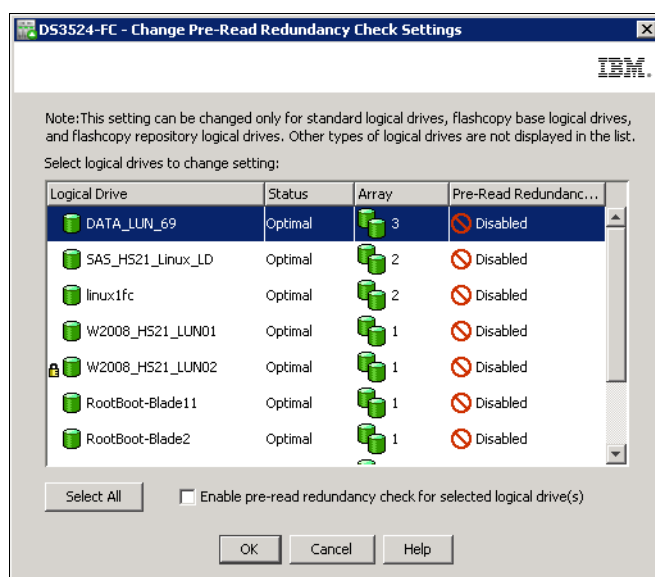

Figure 9-31 Change Pre-Read Redundancy Check Settings
1. Highlight the logical drive in the Logical pane tree, and right-click it and select **Change** → **Media Scan Settings**. The window shown in Figure 9-31 opens.